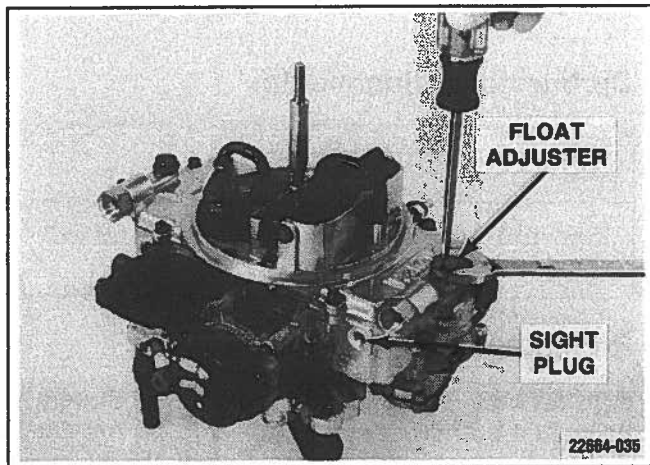

Figure 7-122. Final Float Adjustment
2. While engine is running, remove the sight plug from the primary float bowl (Figure 7-122).